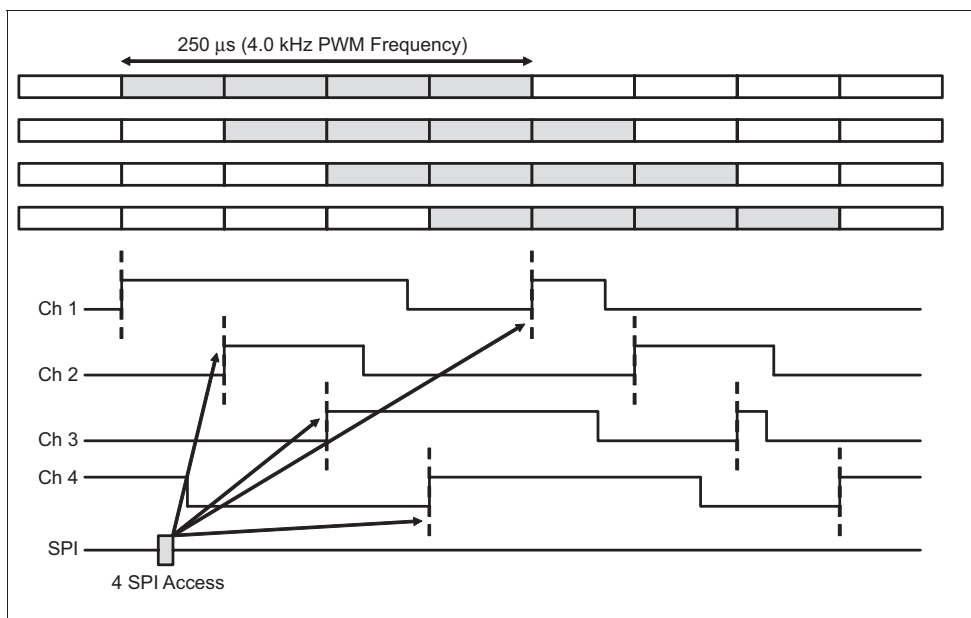

Figure 8. PWM valve control interleave
10. Digital: internal digital signal delivered by interleave synchronization block. See Figure 8.